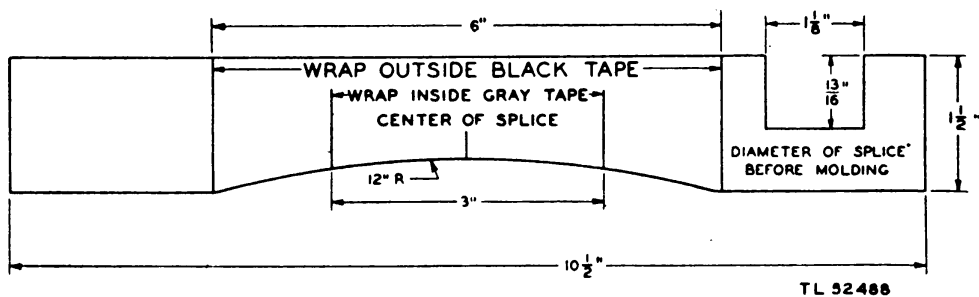

Figure 9. Taping gauge for vulcanized splices.
e. Wrap the roughened area of the cable with black outside tape. Wrap it tightly to exclude air. Build up the tape, wrapping to the approximate shape of the mold. Make the finished patch slightly larger than the mold. A taping gauge (if available, or a drawing of the taping gauge (fig. 9) may be used to gauge the size of the prepared patch.
(5) Bind the entire assembly of insulated conductors in place with a thin layer of gray vulcanizing tape. Follow dimensions shown in figure 9.
(6) Scrape the rubber jackets of the two cables for $2\frac{1}{2}$ inches on both sides of the splice with the roughing tool. Apply vulcanizing rubber cement freely to the clean scraped portions of the cable jacket, and allow it to dry. Do not put this cement over the gray tape.
(7) Wrap black vulcanizing tape around the entire splice to a distance as indicated on the taping gauge (fig. 9). Do not wrap tape on the unscraped part of the jacket or where there is no rubber cement. The tape should be wrapped tightly, lapping one half the width of the tape, in enough layers to fill the mold completely for the particular size of cable. The use of the $1\frac{1}{8}$ -inch slot in the end of the taping gauge will assure this. Also, the length to which the tape is wrapped must be great enough to fill the mold lengthwise. Use the large radius indicated on the taping gauge (fig. 9). The mold must be filled so that sufficient pressure will be built up to vulcanize the rubber properly. Because the mold tapers, fewer layers will be needed as the distance from the center of the splice increases (fig. 6 (F)).
(8) The taping gauge illustrated in figure 9 was designed and dimensioned to allow only the correct amount of tape to be applied to the splice to make a good vulcanized splice. If the pressure on the splice is great enough and evenly distributed, air holes will be prevented and the splice will be symmetrical enough to prevent the conductors from being too close to the surface of the vulcanized jacket. Figure 6 (F) illustrates a splice prepared for vulcanizing.